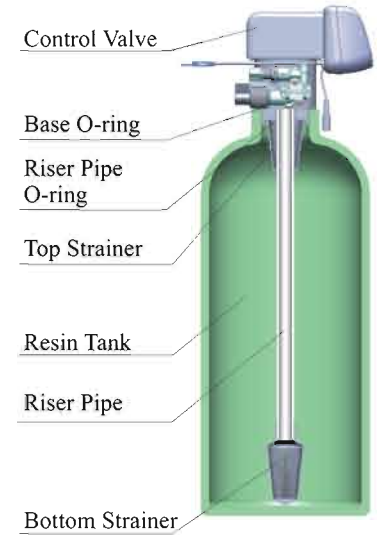

Figure1-1
- ①The filter or softener should be located close to the drain.
- ②Ensure the unit is installed in enough space for operating and maintenance.
- ③Brine tank needs to be close to softener.
- ④The unit should be kept away from the heater, and not be exposed outdoor. Sunshine or rain will cause the system damage.
- ⑤Please avoid to install the system in one acid/alkaline, Magnetic or strong vibration circumstance, because above factors will cause the system disorder.
⑥Do not install the filter or softener, drain pipeline in circumstance which temperature may drop below 5℃, or above 50℃.
⑦The system should be installed in a place where there will be the minimum loss in case of water leakage.
①Install control valve
a.As the Figure 1-1 shows, select the riser pipe with 26.7mm OD, glue the riser pipe to the bottom strainer and put it into the mineral tank, cut off the exceeding tube out of tank top opening. Plug the riser tube in case of mineral entering.
②Install animated connector